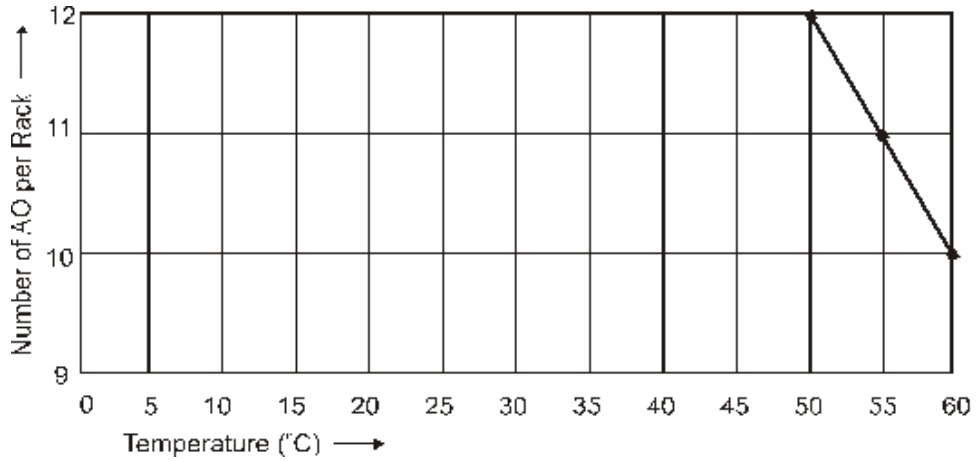

Figure 31 – Power Supply de-Rating
3. Limit the number of Analog Output modules to a maximum of 10 per rack. (see Figure 31.)